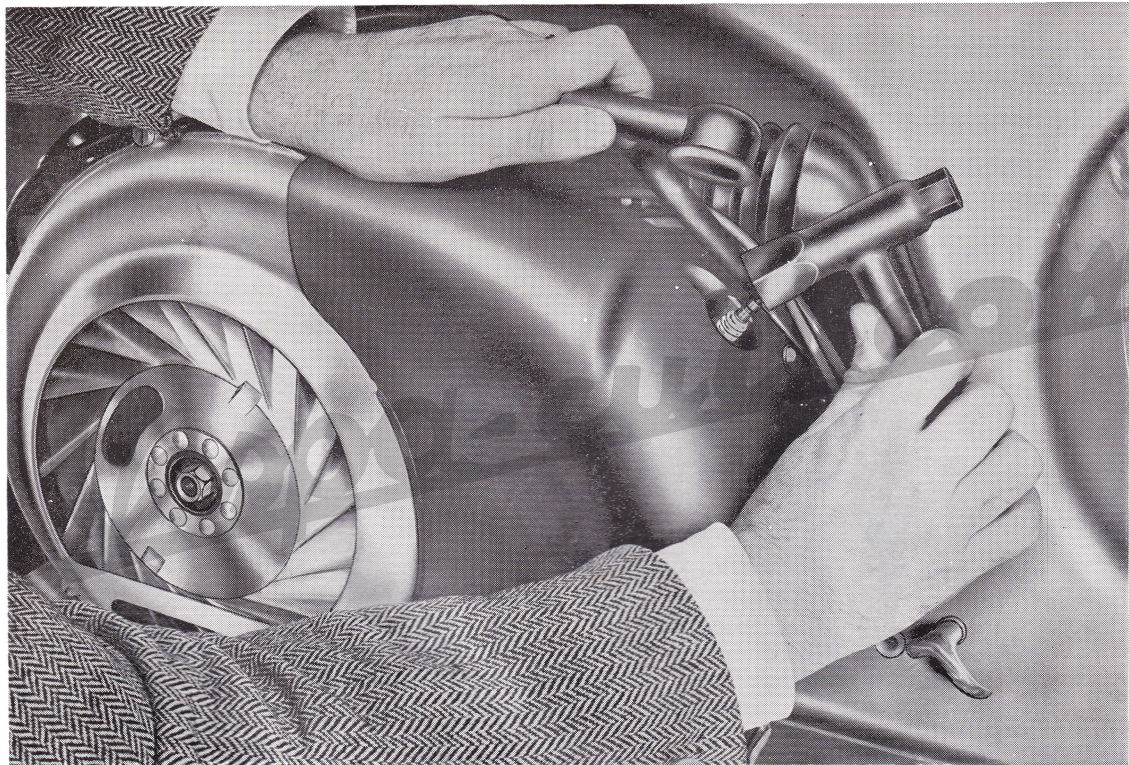

Fig. 10 - Dismantling spark - plug
- Close the fuel tap, remove the sparking plug (Fig. 10) and clean; then kick over the engine several times. Screw in the sparking plug securely, open the fuel tap and start the engine.